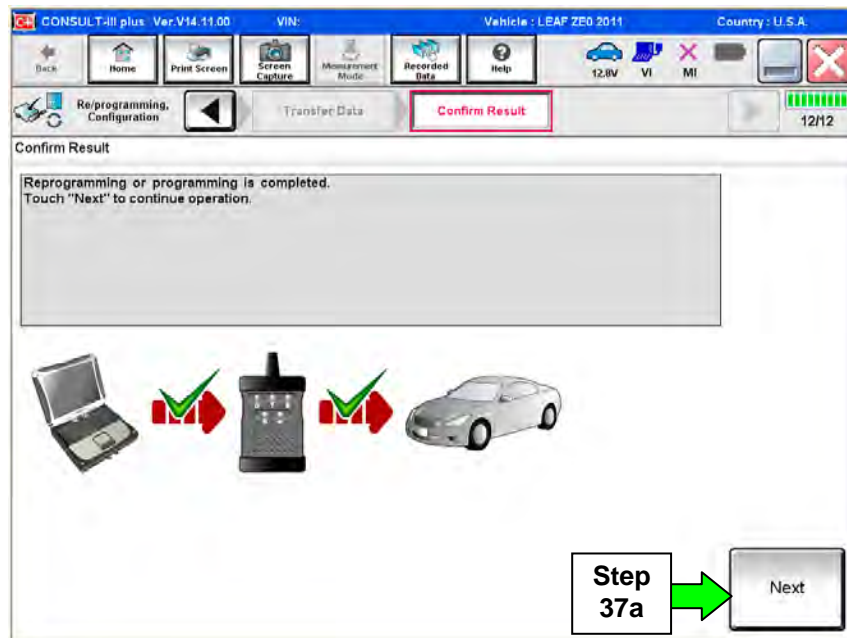

Figure 34
37. When the screen in Figure 34 appears, reprogramming is complete.